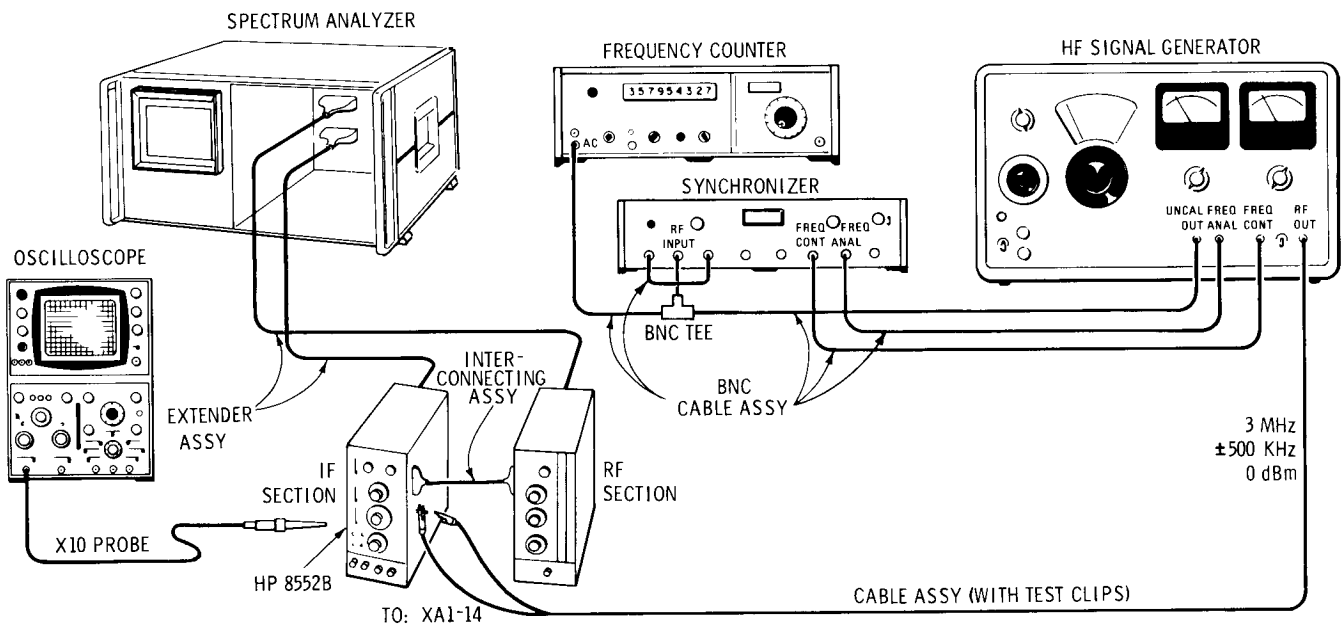

Figure 5-7. Crystal Filter Fine Adjustment Test Setup
1. Remove A2 3 MHz Amplifier Assembly, connect the test setup in Figure 5-7 and make the following control settings: